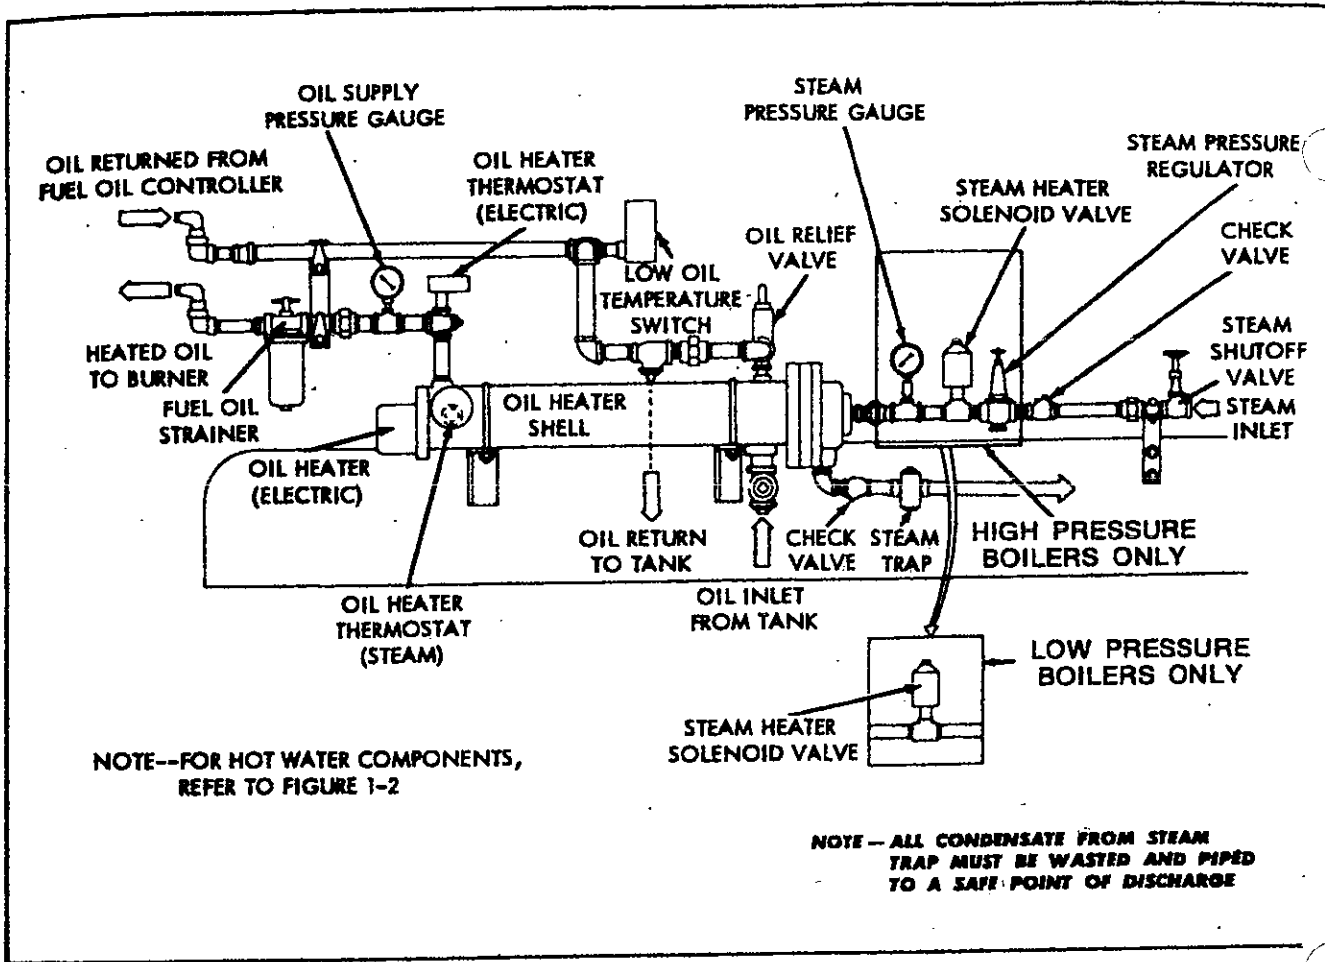

FIGURE 1-8 OIL HEATING ASSEMBLY (STEAM)
- (5) Oil Heater Steam Thermostat (figure 1-8): Senses fuel oil temperature and controls the opening and closing of the steam heater valve to maintain the selected temperature.
- (8) Oil Heater Steam Valve (figure 1-8): A normally closed solenoid valve opened by the oil heater steam thermostat to allow flow of steam to the steam heater to maintain temperature of fuel oil.
- (9) Steam Heater Check Valve (figure 1-8): Prevents oil contamination of the waterside of pressure vessel should any leakage occur in the oil heater.
- (10) Steam Heater Pressure Regulator (figure 1-8): Adjust to provide reduced (usually less than 15 psi) steam pressure to the heater to properly maintain the required fuel oil temperature. This regulator and the pressure gauge are not furnished on 15 psi units.
- (11) Steam Trap (figure 1-8): Drains condensate and prevents loss of steam from the steam oil heater. Its discharge must be piped to waste.
- (12) Check Valve (Steam Heater Discharge) (figure 1-8): Prevents air entry during shutdown periods when cooling action may create vacuum within steam heater.